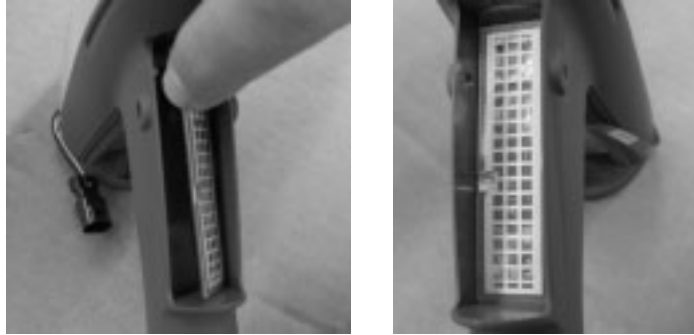

Figure 21 Installing the Trigger Switch – Step 4
4. See Figure 21. Peel the adhesive release liner from the switch.